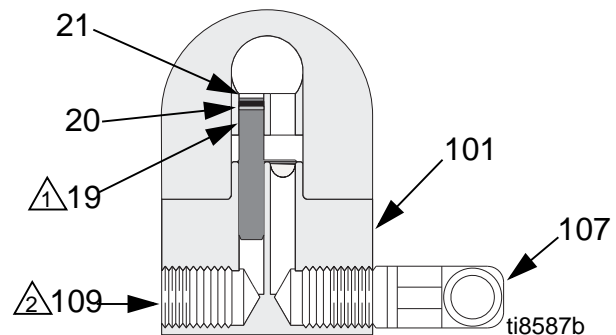

FIG. 1: Non-Circulating Setup Shown (cutaway view)
1. See FIG. 1. Apply anti-seize lubricant to the threads and mating faces of the manifold (101), plug (109), and elbow (107), supplied unassembled.
2. Install an elbow (107) in one fluid port of the manifold (101), and a plug (109) in the other port.
3. Install the internal plug (19) in the gun fluid port on the same side as the manifold plug.
4. Connect the fluid supply line to the fluid inlet elbow (107).